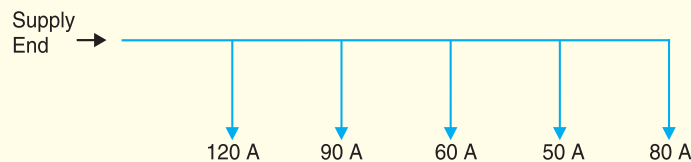

Fig. 13.10
4. A 2-wire d.c. distributor is 250 m long. It is to be loaded as shown in Fig 13.10 at 50 m intervals. If the maximum voltage drop is not to exceed 10V and the resistivity of core material is $0.7 \times 2.54 \mu\Omega \text{ cm}$, determine the maximum cross-sectional area of each conductor. [1.602 cm²]